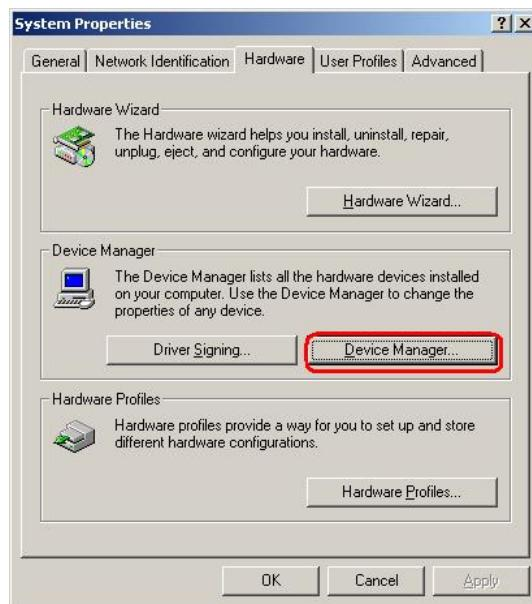

Figure 7-15: Double Click the Device Manager Tab
Step 3: Double click the **Device Manager** tab (Figure 7-15).